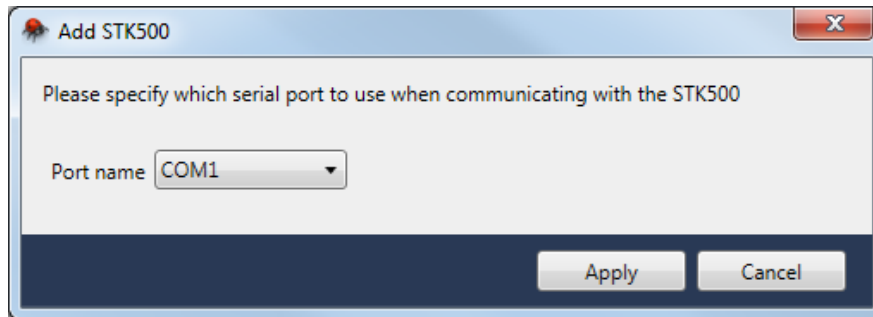

Figure 12: Adding STK500 board.
- In the 'Add STK500' dialog box that appears (see Figure 12), select the correct serial port and click button '**Apply**'.